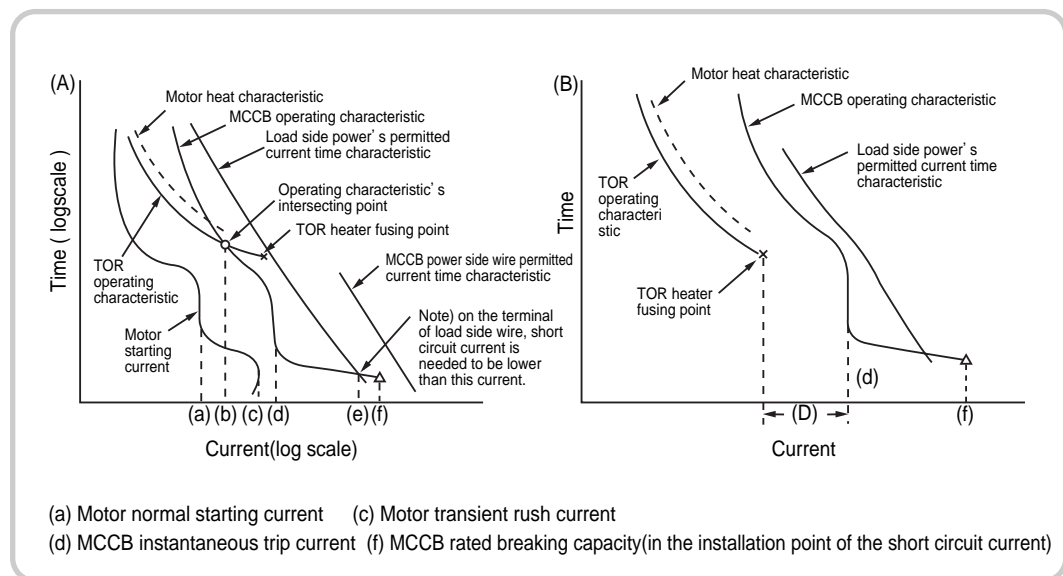
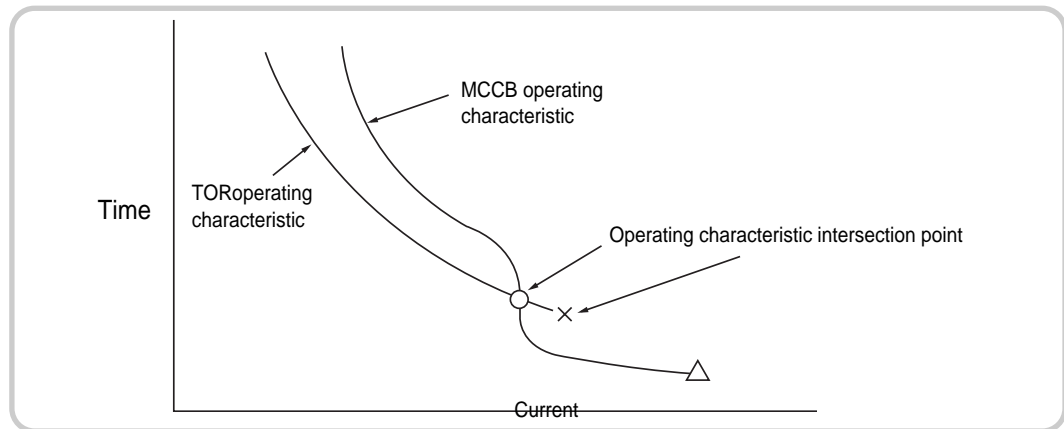

Fig. 64. Each characteristic's relation of protection cooperation
Fig. 68. Intersecting point of breaker and thermal relay
Fig. 64 indicates the TOR's operation characteristic, the motor's heat characteristic and the motor's starting current but if each curve is same as fig. 64(A), the condition can be satisfied. This condition can be satisfied if in a modern (RC scale) TOR's selection the motor rated current is roughly the same as the heater set current.
There is a possibility of faulty operation by rush current during motor's starting. For a squirrel-cage motor, approximately 5~7 times the normal starting current flows during starting but because direct current overlaps during early starting (especially very beginning of semi cycle), an even bigger transient rush current flows and the amplification changes by a power factor as in fig. 66. When motor's starting power factor is 0.4 delay, it becomes about 1.3 times of normal starting current. Moreover if there is instant restarting (after power is off, restarting before motor stops spinning), at worst it reaches two times, in other words, 2.6 times of normal starting current from effect of residual current of motor. Fig. 67 shows actual measurement results from a real motor. Instantaneous trip time of MCCB is operated around a semi cycle so it is necessary to be cautious not to be operated with selected rush current. To prevent faulty operation from this rush current, check actual measurement result and set breaker's instantaneous trip current as 14 times of rated current. After deciding operation characteristic of magnetic switch and MCCB like this, it is a problem to make each characteristic's intersecting point. Fig. 64(A) indicates when the 7th item (p231) of protection cooperation condition is satisfied and fig. 64(B) indicates when it's not satisfied. In the case of fig. 64(B), because there is gap of protection cooperation, if the current of this range flows, the TOR's heater will be fused. TOR operating characteristic MCCB operating characteristic MCCB faulty operation
Also on fig64(A), when the intersecting point of the operation characteristic exceeds the magnetic switch's breaking capacity, even if TOR is operated, the magnetic switch becomes incapable of breaking and is damaged. So in the case of having an intersecting point of operation characteristic for protection cooperation, the 8th item(p231) of protection cooperation condition needs to be satisfied. It is desirable to satisfy the condition stated in this paragraph for protection cooperation but because this kind of current range is relatively narrow and the possibility of flowing is also very rare(the current of this range is mostly from motor winding ground and layer.), it can be neglected.
The intersecting point of the MCCB and the TOR's operation characteristics are not just on the breaker's inverse limit time characteristic range shown as fig. 64(A) but also on instantaneous trip range shown as fig. 68. In this case, if the magnetic contactor does not have any extra breaking capacity, it's possible for the intersecting point to exceed the magnetic contactor's breaking capacity. With consideration of this point, the Metasol series magnetic contactor has been made to have enough extra breaking capacity, and as shown on table 3, it is over 13 times of rated operational current below 440V. So even when operation characteristic's intersecting point is the same as fig. 68, maximum rated capacity can be selected for the motor so in the case of selecting protection cooperation, it is economically advantageous.